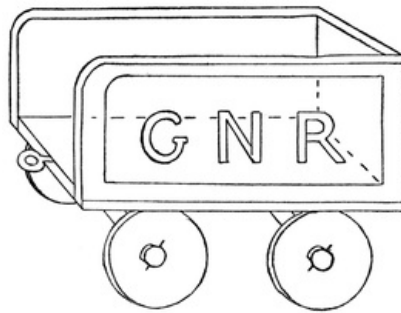

FIG. 233
(2) *The Tender* (Fig. 233) can be made in various ways. The bottom is best made of wood, 4 inches by 2¼ inches. The sides may be made of wood, 4 inches by 1½ inches; the back must be cut to fit exactly between the sides. When the back and the sides are glued in position two wedge-shaped blocks may be glued into the corners for strength. The buffers and the wheels as in the engine.